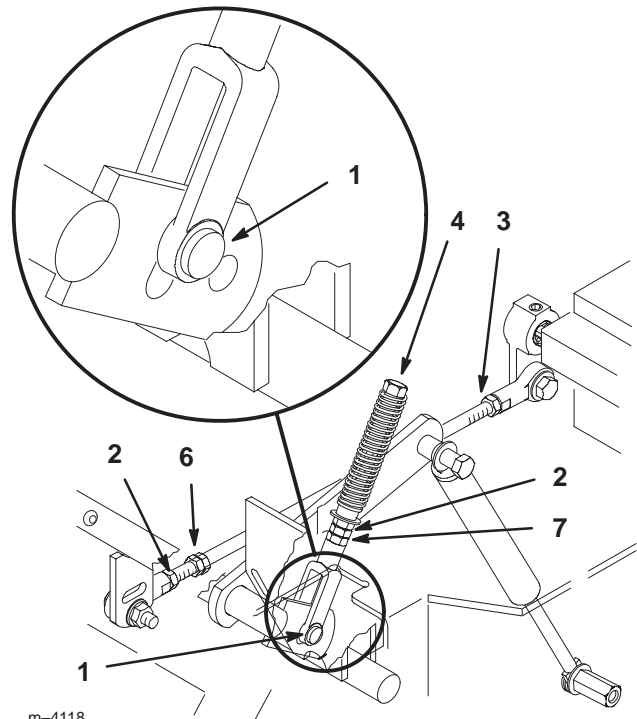

Figure 51
4. If adjustment is needed, loosen the nut against the yoke (Fig. 51).
5. Apply slight rearward pressure on the motion control lever, turn the head of the adjustment bolt in the appropriate direction until lever is centered in neutral lock position (keeping rearward pressure on the lever will keep the pin at the end of the slot and allow the adjustment bolt to move the lever to the appropriate position (Fig. 51).
- Loosen locknut at ball joint on pump control rod (Fig. 51).
- Adjust pump rod length by rotating double nuts on rod, in the appropriate direction, until wheel is still or slightly creeps in reverse (Fig. 51).